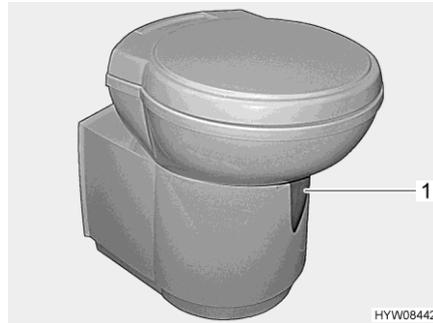

Fig. 138 Thetford toilet bowl (swivelling)
- Before flushing open the sliding trap of the Thetford toilet. To do this, push the slide lever (Fig. 138,1) in an anticlockwise direction.